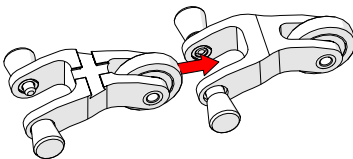

Fig. 48 - Align mounting holes
2. Align the pins with the mounting holes of the component to be connected (Fig. 48).